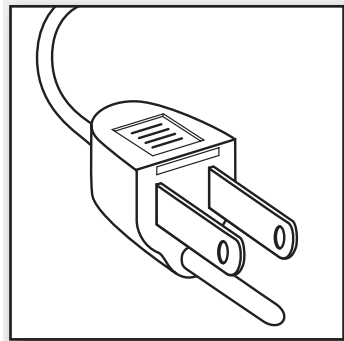

Figure 3
1. To replace the fuse, first turn the unit off and unplug it from the wall. Locate the door on top of the plug. Figure 3.